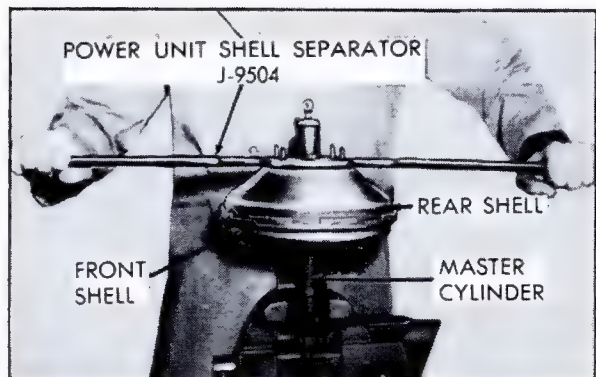

Fig. 5-20 Removing Rear Shell - Single Diaphragm
3. Place assembly in bench vise with rear shell up, tighten vise jaws securely on master cylinder, Fig. 5-20, and remove dust guard retainer, dust guard and silencer from rear shell.
4. Install Power Unit Shell Separator, J-9504, over mounting studs on rear shell, Fig. 5-20. Applying downward pressure, rotate rear shell counterclockwise, disengaging it from front shell.